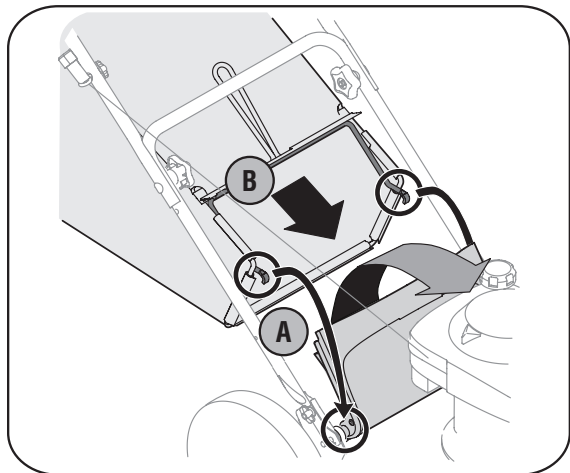

Figure 3-5
- Place grass catcher on the pivot rod. Let go of discharge door so that it rests on the grass catcher. See Figure 3-5.